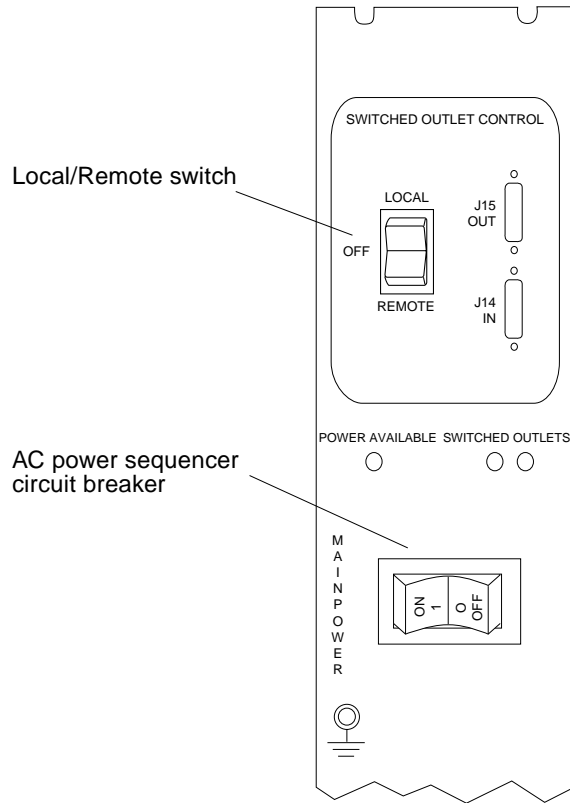

FIGURE 3-1 AC Power Sequencer Control Panel
- b. **Turn the AC power sequencer circuit breaker (FIGURE 3-1) at the rear of the cabinet to the Off position.**
- c. **Set the Local/Remote switch (FIGURE 3-1) to the Remote position.**
**b. At the rear of the cabinet, turn the AC power sequencer circuit breaker (FIGURE 3-1) to the Off position.**